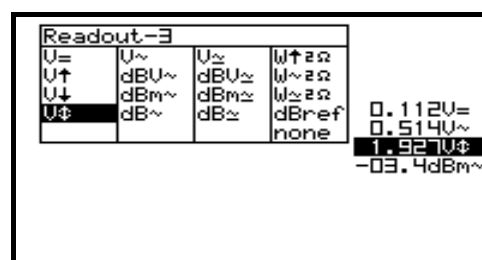

Fig 19
6. Press the cursorkeys to highlight the desired readout function for meter3 readout. (**Fig. 19**)